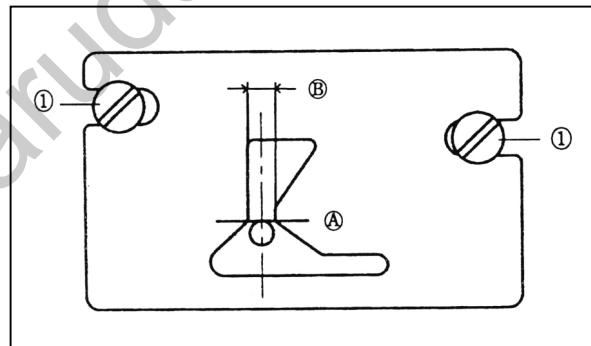

Fig. 17
Take out the needle plate and loosen the top screw of the spring (1), align back point (A) vertically, and adjust the spring to keep it in line with the center (B) of needle, then tighten the screw. (fig. 17)